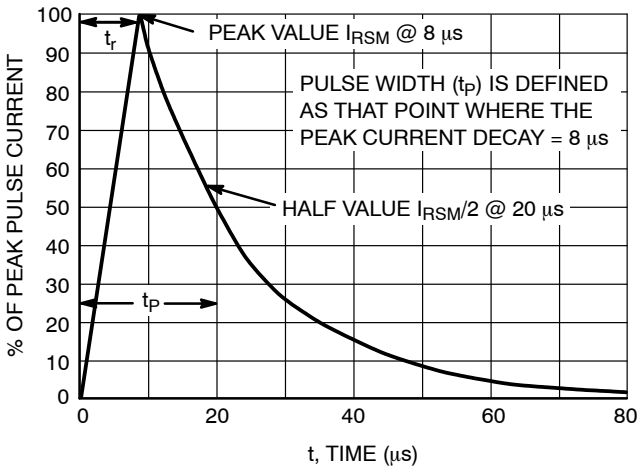

Figure 3. $8 \times 20 \mu\text{s}$ Pulse Waveform
1. Non-repetitive current pulse per Figure 3
4. $8 \times 20 \mu\text{s}$ pulse waveform per Figure 3